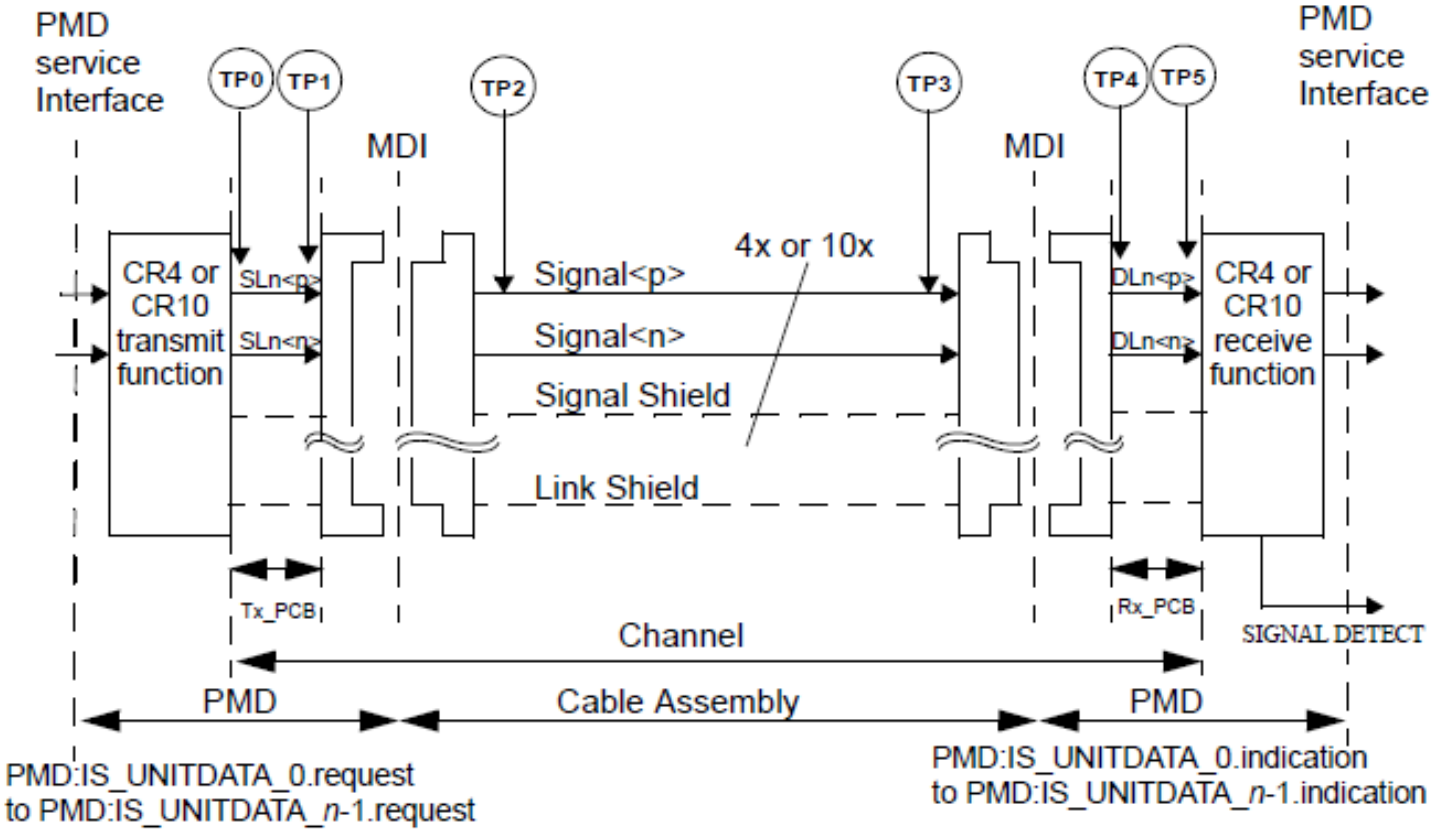

Figure 85-2—40GBASE-CR4 or 100GBASE-CR10 link (half link is illustrated)
- Adopt Figure 85-2 and Table 85-4 as baseline for 802.3bj with applicable changes for naming transmit and receive functions and figure and clause numbering.
TP1 to TP4	All cable assembly measurements are to be made between TP1 and TP4 as illustrated in Figure 85-2. The cable assembly test fixture of Figure 85-13 or its functional equivalent, is required for measuring the cable assembly specifications in 85.10 at TP1 and TP4.